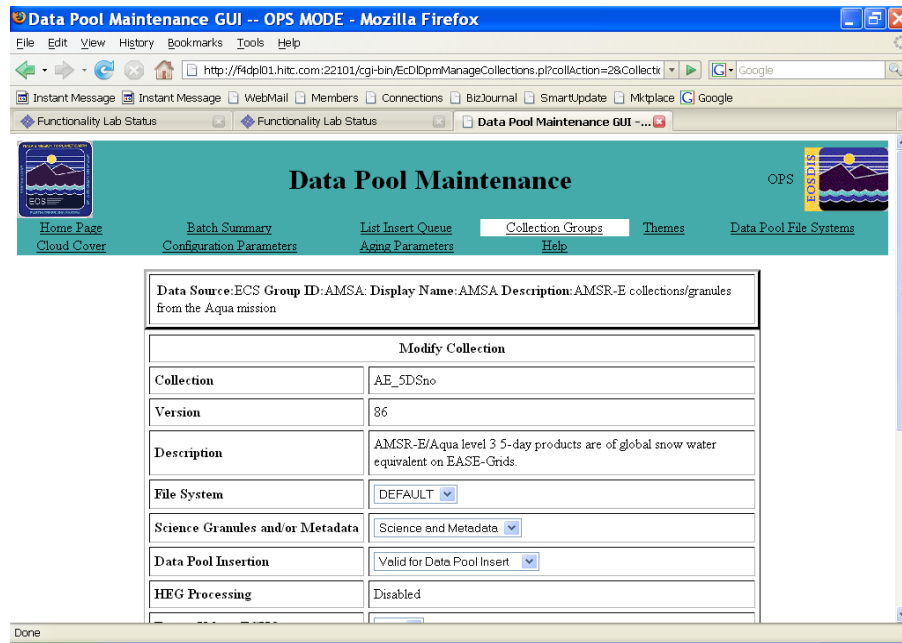

Figure 14.10-21. Modify Collection Page
As part of managing the Data Pool storage and retention of data, making adjustments based on experience and/or changes in demand, it may be desirable to modify a collection. The modification may mean specifying that metadata only may continue to be inserted and science granules may no longer be inserted, or declaring the collection no longer valid for data pool insertion at all. Figure 14.10-21 shows the **Modify Collection** page that a full-capability operator obtains by clicking on the **Modify Collection** link at the bottom of the Detail Information page. On the **Modify Collection** page, the full-capability operator can modify the File System, Science Granules and/or Metadata, Data Pool Insertion, Quality Summary URL, DayNight Coverage, 24 Hour Coverage, Cloud Cover Type & Source. The operator implements the change(s) with a click on the **Apply Change** button at the bottom of the page.
- The **Modify Collection** page is displayed (see Figure 14.10-21).